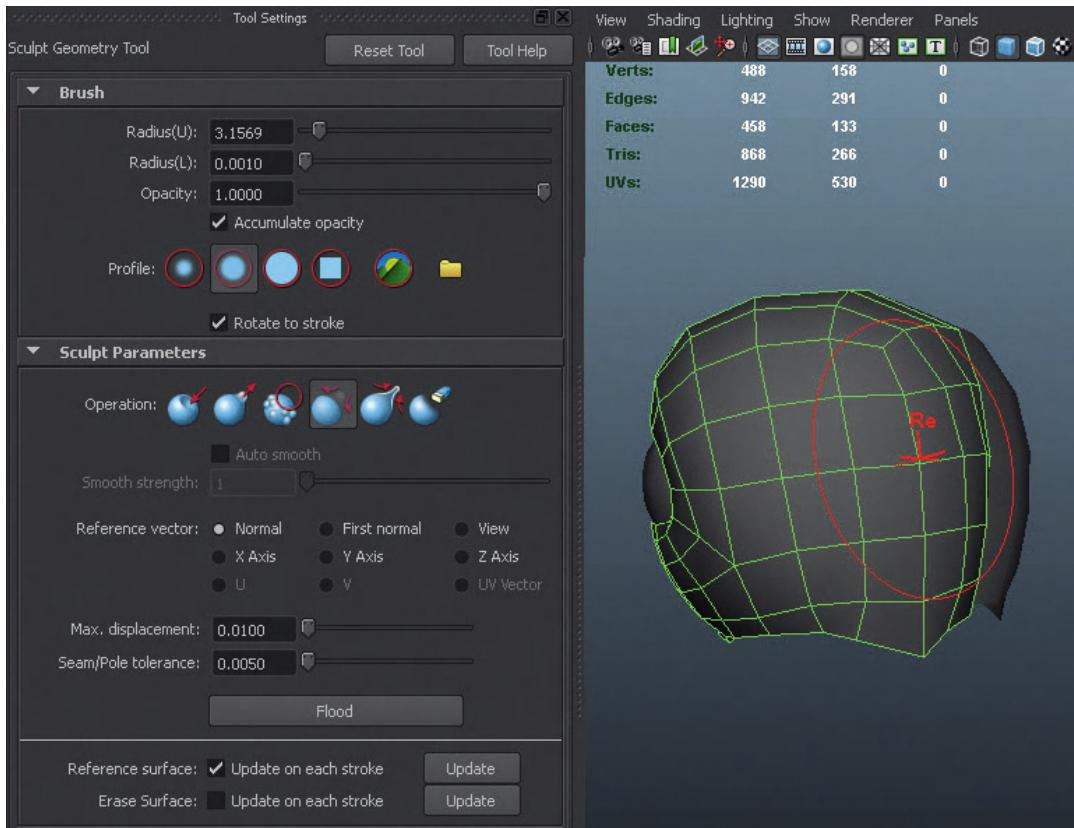

FIG 4.39 Using the Sculpt Geometry Tool's Relax operation to better distribute the mesh.
Step 57: Use the Relax Operation and paint over the new corner of the head to relax the polygons to a more uniform mesh configuration (Fig. 4.39). Do this by first going to the Sculpt Parameters section of the Tool Settings and activating the Relax Operation (fourth blue sphere over in the Operations line). Then in the persp View Panel, hold b down and scale your brush to approximate Fig. 4.39 and click-drag to relax the area.